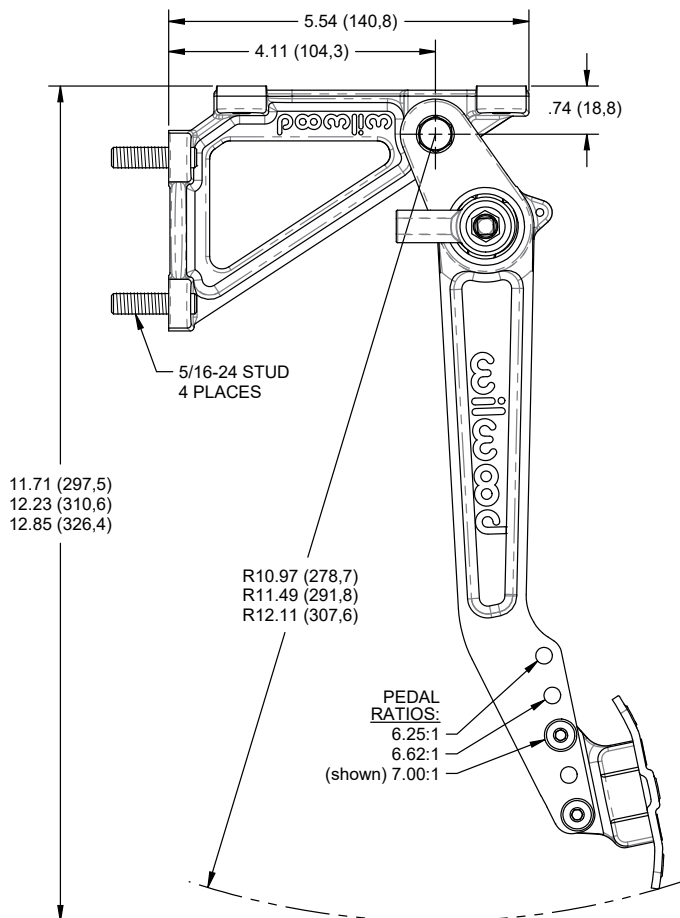

Figure 1a. Forward Swing Mount Single Pedal Assembly, Physical Dimensions, 6.25:1 to 7.00:1 Ratio (P/N 340-16380)
•Wilwood's forward swing mount single pedal assembly must be mounted using the four 5/16-18 threaded outboard mounting holes as shown in Figures 1a & 1b. Attach the pedal assembly to two sturdy beams or plates with four 5/16" bolts. Pedal assembly must be rigidly attached to frame and not deflect under heavy pedal forces. **NOTE:** Pedal must be free from obstructions over the entire range of motion. Allow enough space so Tru-Bar brake adjustments can be made and master cylinders are accessible.